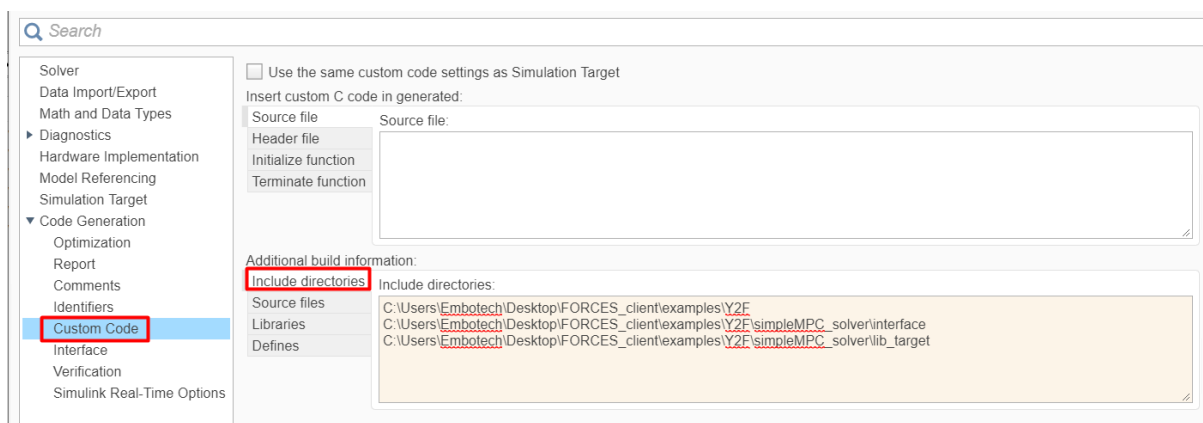

Figure 13.110: Add the directories included for the code generation.
9. (Figure 13.110) In the “Code Generation/Custom Code” tab, include the directories: